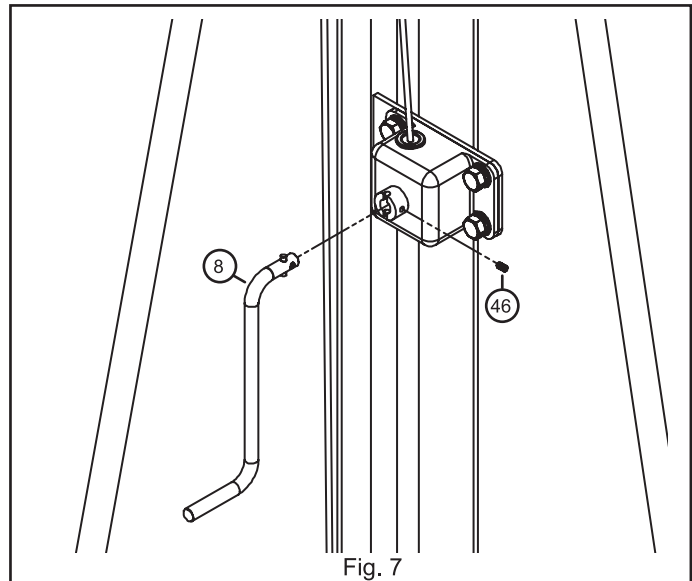

Fig. 7
Handles, Fig. 7. Loosen the Setscrew (46) on the Winch Box, then insert the Height Adjustment Crank Handle (8) into the hole on the Winch Box (9), aligning the drive pin with groove on the gearbox as shown in Fig. 7. Tighten the Setscrew to fasten the handle and ensure it does not fall out.